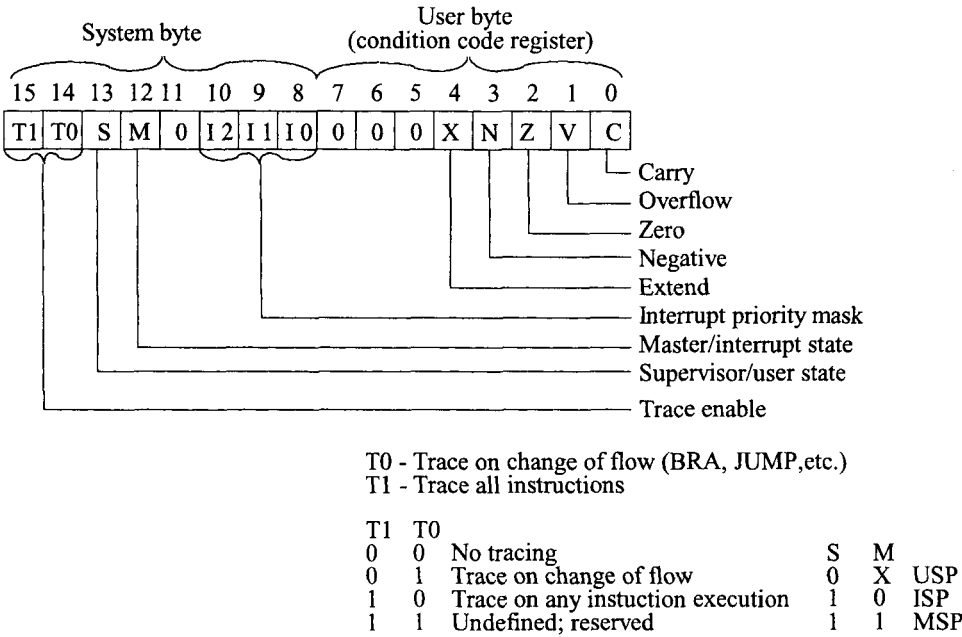

FIGURE 11.5 MC68020 status register
The status register, as shown in Figure 11.5, consists of a user byte (condition code register, CCR) and a system byte. The system byte contains control bits to indicate that the processor is in the trace mode (T1, T0), supervisor/user state (S), and master/interrupt state (M). The user byte consists of the following condition codes: carry (C), overflow (V), zero (Z), negative (N), and extend (X).